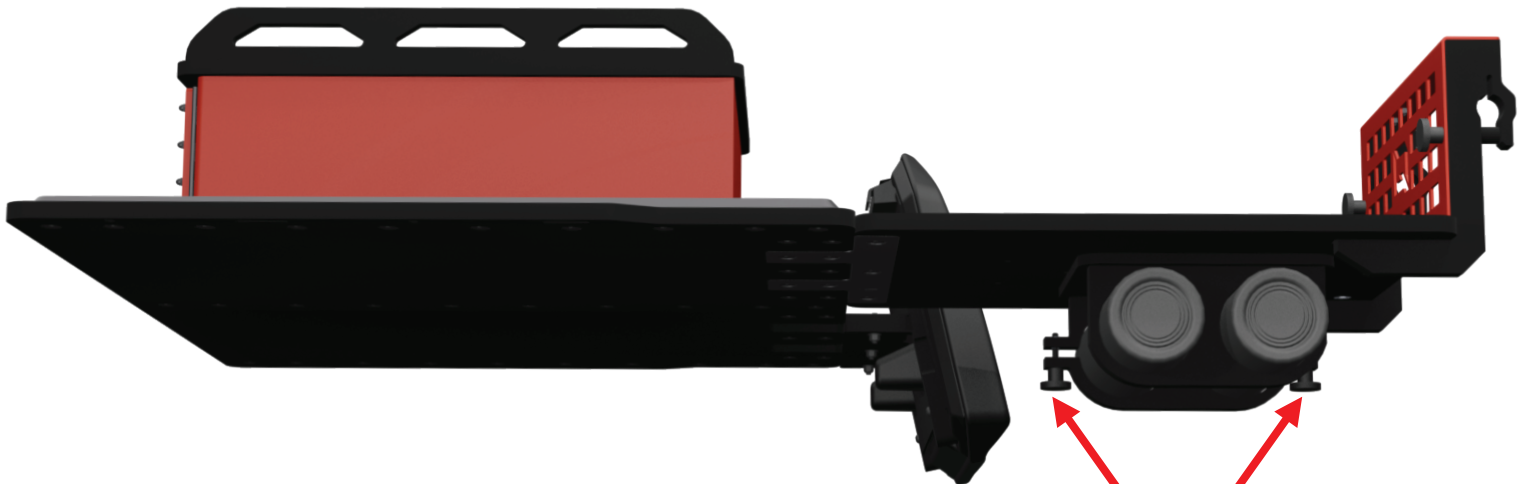

FIGURE 2
- c. Pivot the opposite side (the neck end) of the bottles up into the retention bracket. Secure the bottles firmly in place by inserting the two provided screws and tightening them down until the bottles are completely immobilized. (See Figure 2)